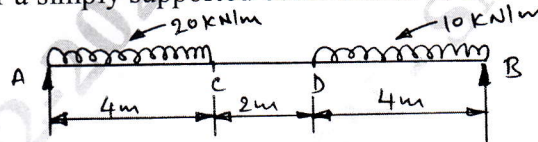

Fig.Q5(b)
- b. Draw SFD and BMD for a simply supported beam loaded as shown in Fig.Q5(b).